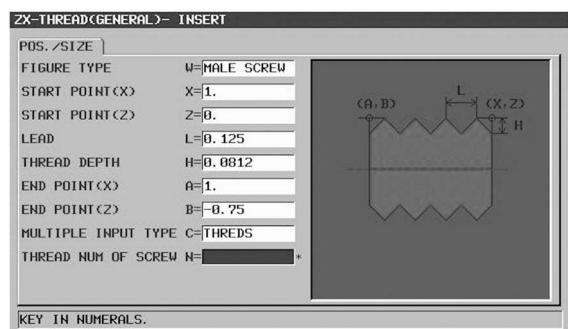

Figure 7-35 THREADING POS./SIZE
48. Complete the POS/SIZE dialog per Figure 7-35. Use the CALC soft key to input the THREAD DEPTH, H=.